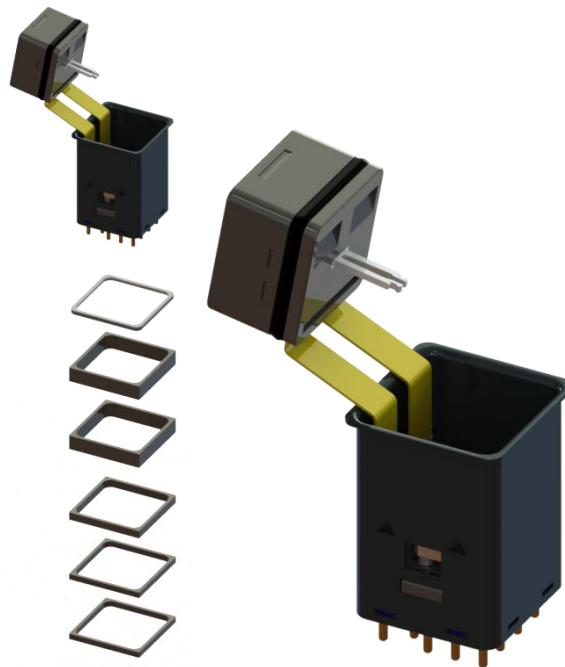

Figure 10: Switch shown with panel seal, panel spacers, and mounting sleeves removed
4.2.3. To determine the use of the panel seal panel spacer, mounting sleeves and the maximum panel thickness refer to pages 31-36 of Series 200 SCD. In this particular application shown in this Technical Bulletin we will be discarding panel seal, panel spacers and mounting sleeves as shown in Figure 10.